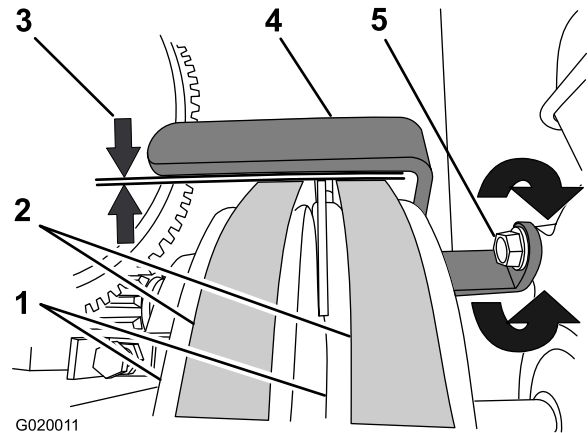

Figure 61
3. Check that the air gap between the belt guide and the belts is 2.5 to 4.0 mm (3/32 to 5/32 inch); refer to Figure 61.
- A. Loosen the bolt that secures the belt guide to the engine (Figure 61).
- B. Rotate the belt guide up or down until there is an air gap of 2.5 to 4.0 mm (3/32 to 5/32 inch) between the guide and each belt (Figure 61).
- C. Tighten the bolt that secures the belt guide to the engine (Figure 61).